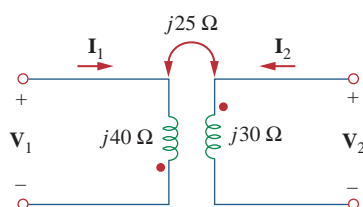

Figure 13.88
- 13.19** Determine an equivalent T-section that can be used to replace the transformer in Fig. 13.88.